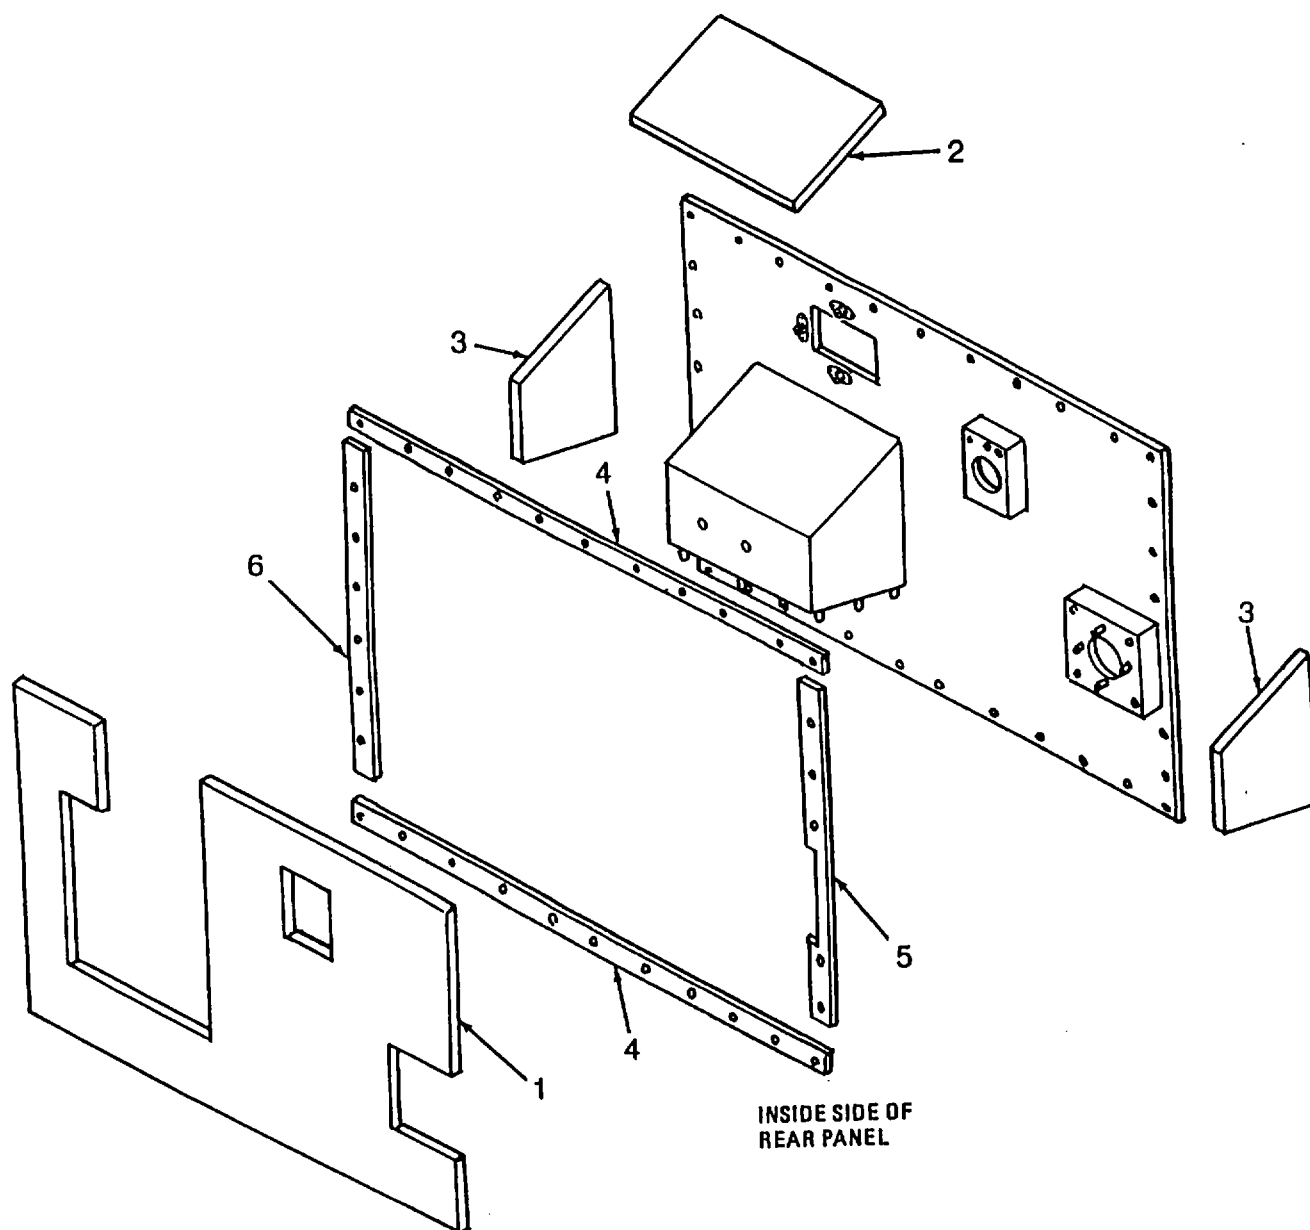

Figure 4-19. Rear Panel Assembly (Sheet 1 of 3)
d. Assembly (Refer to Figure 4-19)
- (1) Install insulation (1) (Item 51, App F) and (2) (Item 38, App F) and two insulations (3) (Item 52, App F).
- (2) Install two gaskets (4) (Item 10, App F), gasket (5) (Item 17, App F) and gasket (6) (Item 11, App F).
d. Assembly - continued (Refer to Figure 4-19)